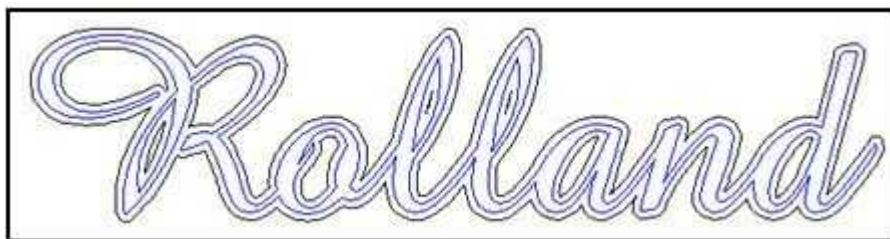

Figure 3
- 4 Your text will now have a toolpath applied to the outside, the original will have turned blue, see Figure 3.